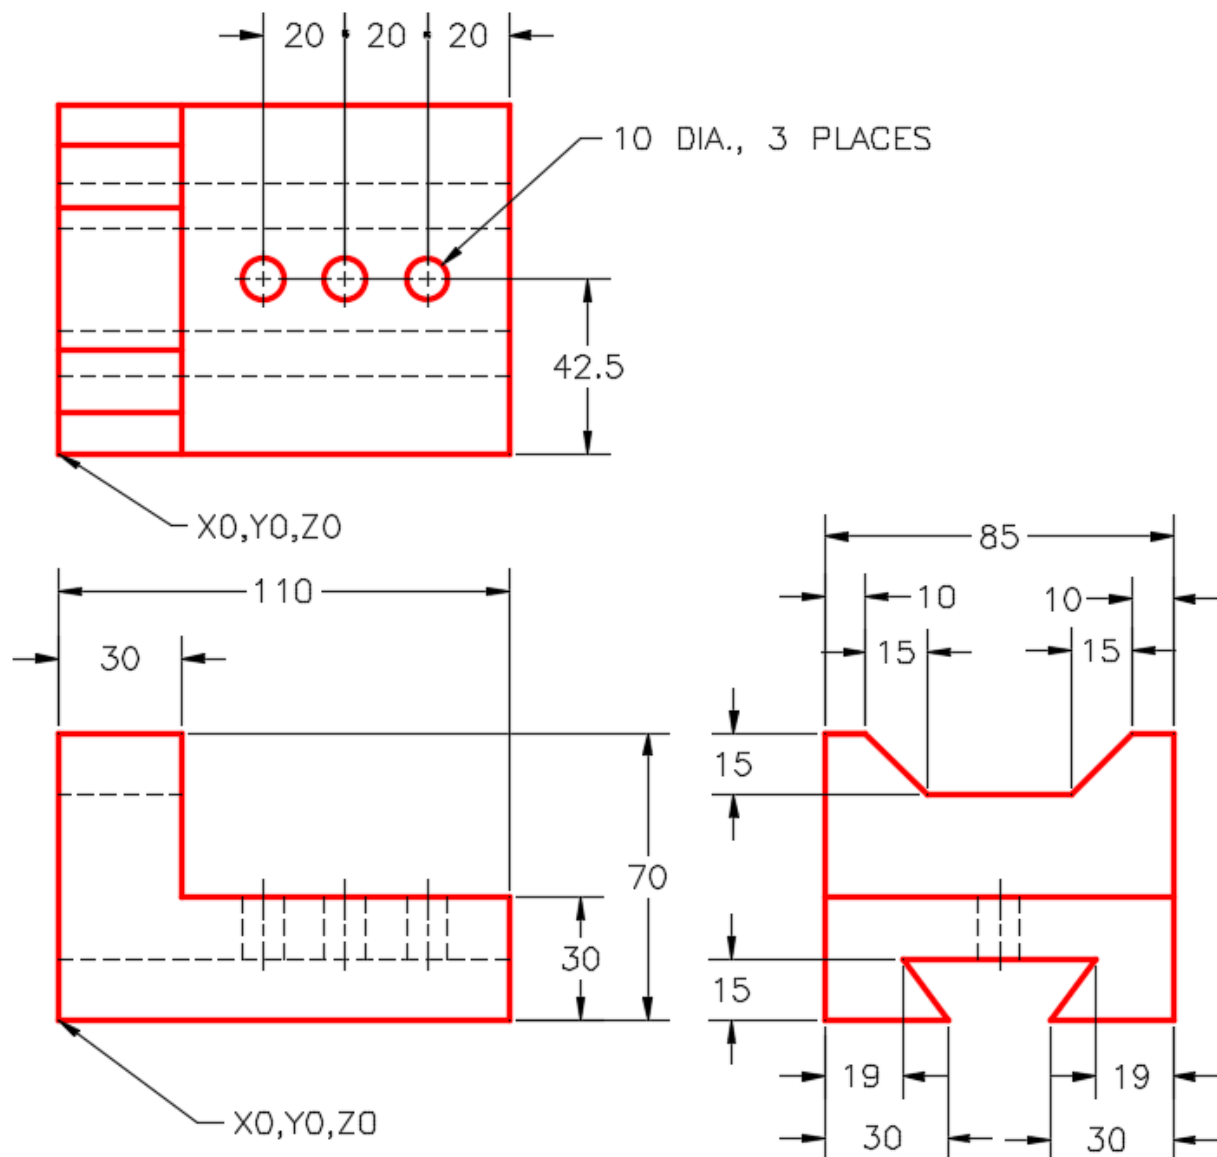

Figure Step 1A
Step 1 On layer Solid 1, draw a solid model of the object. (Figure Step 1A, 1B, and 1C)